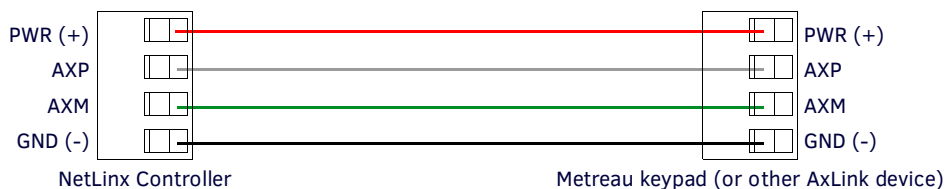

FIG. 24 AxLink straight-thru wiring
Connect the NetLinx Controller's AxLink connector to the AxLink connector on the rear panel of the Metreau keypad for data and 12 VDC power as shown in FIG. 24.
2. Connect the other four-pin connector on the keypad labeled TO SPEAKERS to the SWT speakers as shown in FIG. 24.